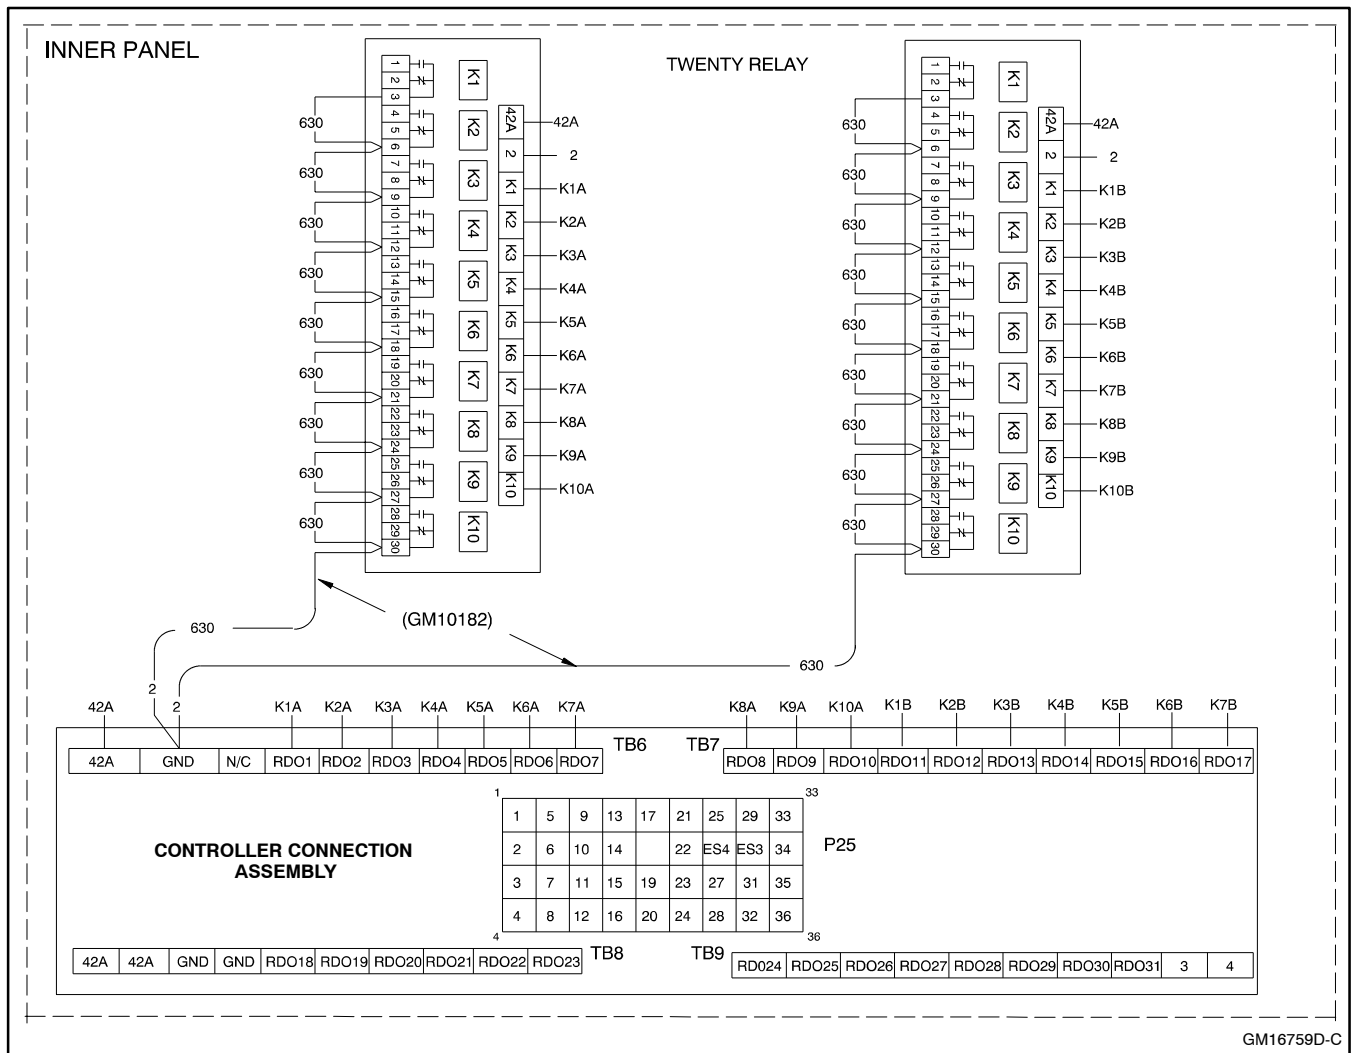

Figure 8 Wiring Harness GM10182 Connections for DC Power Supply
Install the 18-lead dry contact wiring harness (GM10182) to electrically connect the relay common (C) terminals together when using a DC power supply. See Figure 8. Remove the 18-lead